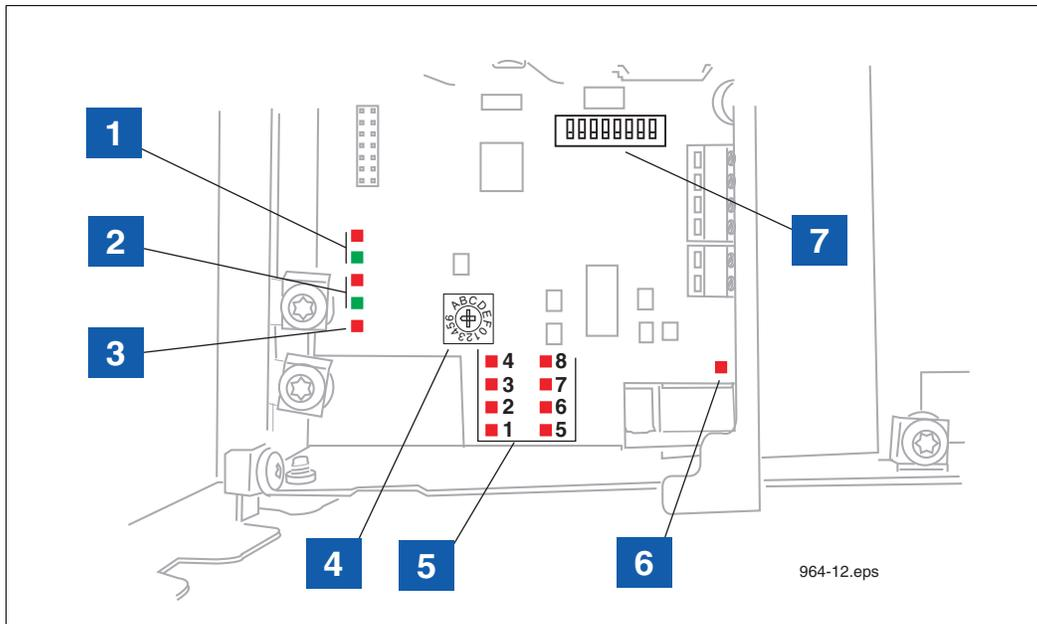

Figure 12. TLS RF diagnostic LEDs and switch locations
- a. Plug the TLS RF's ac power cord into a 120 Vac outlet. Confirm the Green /Red LEDs (refer to item 2 in Figure 12), are flashing rapidly. This is an indication there is RS-485 network activity between the TLS RF and the Receiver.
- c. If it is not, check PWR LED (refer to item 3 in Figure 12), if not lit; check power wiring. If the wiring is correct, measure the voltage across the twisted pair power wires, it should read +15Vdc. If it is not, the TLS RF is bad.
- d. If the Red LED (refer to item 2 in Figure 12) is not flashing, confirm the TLS RF address is set to Master (refer to Appendix B, Figure B-1 on how to set the TLS RF Device ID). If it is, the TLS RF has failed.
- b. Go to the TLS RF, open its cover. One of the 8 Red received LEDs should be flashing (refer to item 5 in Figure 12). Observe which LED is lit and compare it against the Transmitter ID; they should match. For example, if the Transmitter ID is set to 1, the LED number 1 in the TLS RF should be flashing.
2. In this example, device output 1 is a CCVP transmitter - Observe polarity. Note: each time a transmission is received from this device, LED 1 (see item 5 in Figure 12) will flash.
3. In this example, device output 2 is a Flow Meter - Observe polarity. Note: each time a transmission is received from this device, LED 2 (see item 5 in Figure 12) will flash.
Figure 12 locates the diagnostic lights and setup switches in the TLS RF.
LEGEND FOR NUMBERED BOXES IN Figure 12